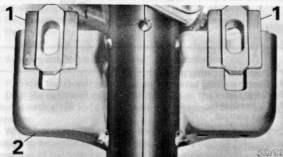

Fig. 11.20 Steering column upper bracket (2) and pads (1) in sheared position. (Sec. 20)
- 2 Check for gaps between the column upper mounting pads and bracket. If gaps similar to those shown in Fig. 11.20 are to be seen, then the column has partially collapsed due to the plastic retainers having sheared.